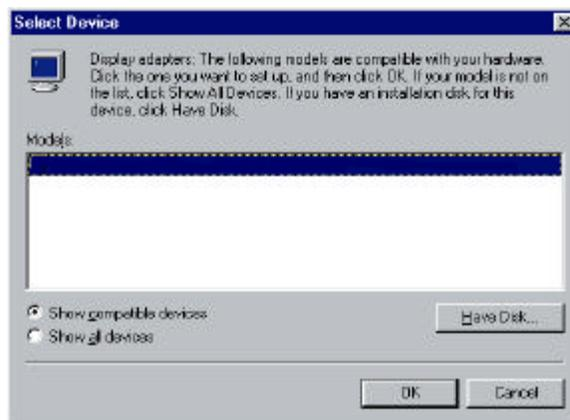

Figure 9: Select Device Window
7. The Select Device window allows you to select new display drivers (Figure 9). A standard list of available drivers is displayed here. These standard drivers do not support your Oxygen card. To install your Dynamic Pictures Oxygen driver software from your CD, click the “Have Disk...” button.